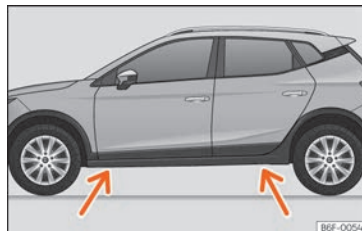

Fig. 37 Jack position points.
- Find the support point on the strut (sunken area) closest to the wheel to be changed » **Fig. 37.**